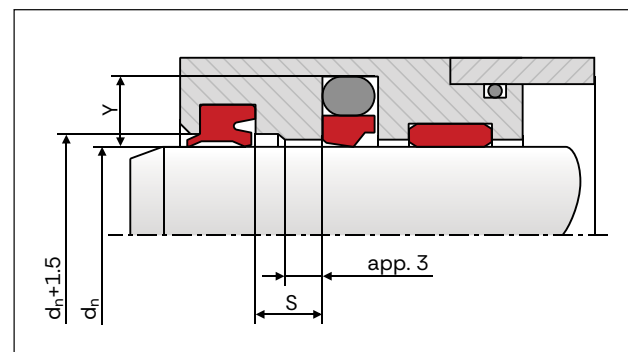

Figure 12: Seal groove spacing.
- The distance between seal grooves and/or the scraper seal groove (S) should be at least equal to the groove depth Y.
- An oil reservoir should be included to capture the returning oil, as illustrated in figure 12.